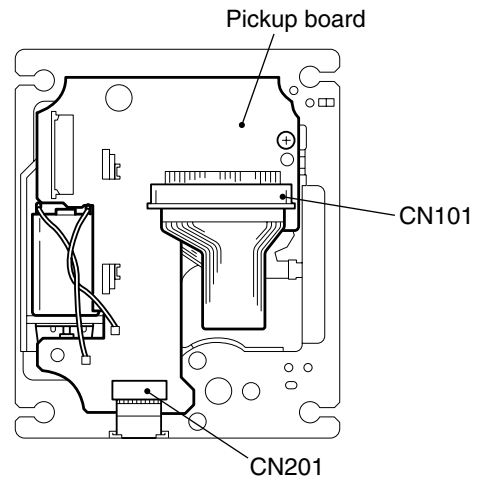

Fig.6
■ Removing the turn table assembly (See Fig.6, 8 and 9)